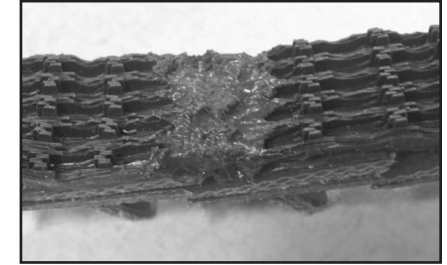

Fig. 7
- Next, use the hot knife to smooth the area. See Fig. 7.